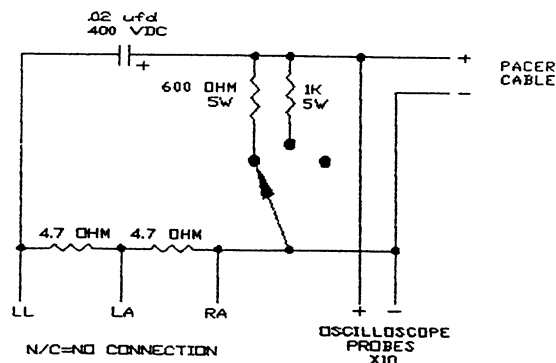

FIGURE 9.2
16.1 Remove the **E300A** monitor from the defibrillator base. Connect the **E300A** monitor ECG input and the pacer output to the circuit shown below in Figure 9.2. Switch the test circuit to 600Ω load. Turn on the **E300A** monitor and select Lead II (if the **E300A** is equipped with a 5 lead ECG option). Set the pacer current to 60 mA. Set the rate to 40 PPM. Press the defibrillator POWER ON key and press the PACER START. The monitor should display PR 40 (pulse rate).
- 16.3 If calibration of the Pacer Pulse Rate is required, remove the pacer board and install extender board, then reinstall the pacer board on the extender board. Reconnect the defibrillator to AC power and press the POWER ON key. Using the pacer rate test circuit connected as described in Figure 9.2, press the PACER START key. Adjust VR3 until the pulse rate (PR) displayed on the **E300A** is within 3% or 3 PPM of the set rate on the pacer module. Note rotating VR3 clockwise decreases pulse rate. Verify each setting on the pacer rate switch after adjusting VR3 to be within $\pm 3\%$ or 3 PPM.